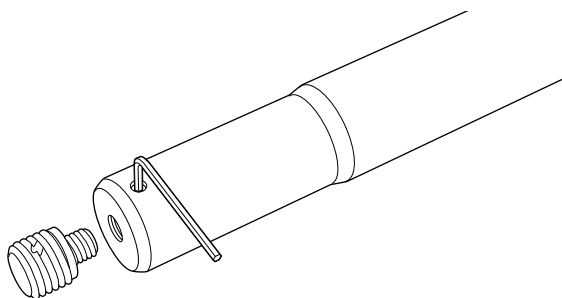

Figure 24: Pole with M20 Lug Removed
4. Tighten the set screws enough to ensure they will remain in the pole (Figure 24).